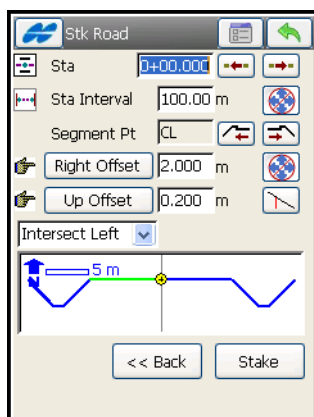

Figure 9-42. Stakeout Road (second screen)
3. In the next **Stakeout Road** screen (Figure 9-42 on page 9-32), set the properties of the cross-section on the stakeout station: